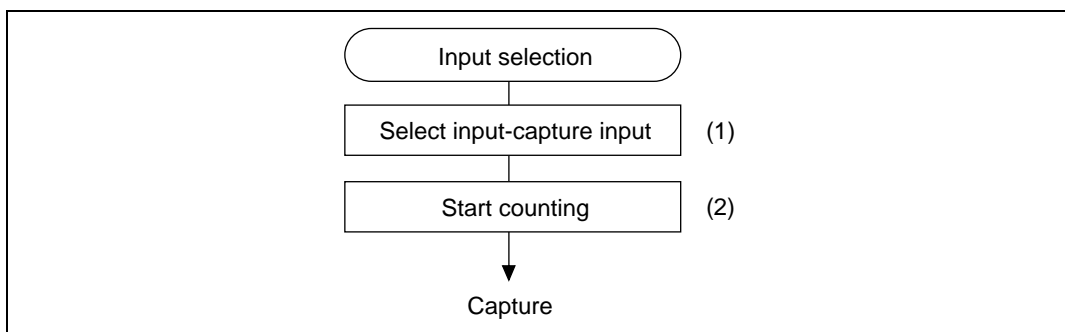

Figure 10.23 Procedure for Selecting Input Capture Mode
- Procedure for selecting input capture mode (figure 10.23)